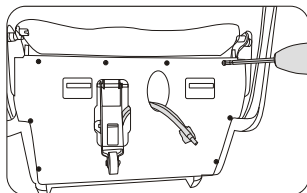

Figure 10
- Pull the calf rest air pipe and power cord through the hole of front dam-board, then tighten the screws of dam-board. (figure 10)